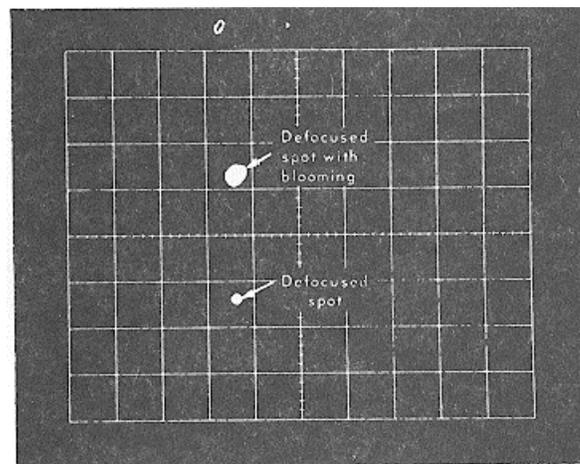

Fig. 5-2. Checking CRT display for spot blooming (high-voltage not in regulation).
- j. Check—For blooming (see Fig. 5-2).